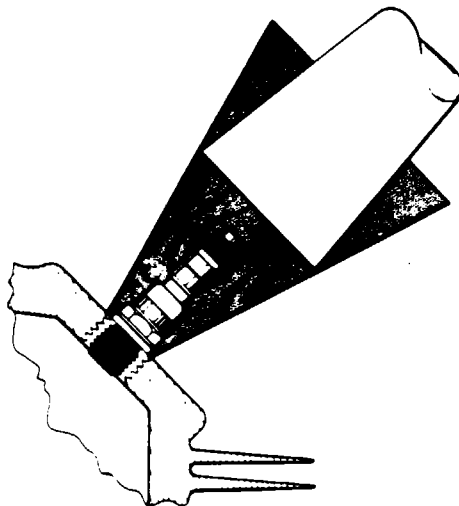

Figure 8-36. Removing Frozen Spark Plug
d. Removal of seized spark plugs in the cylinder may be accomplished by application of liquid carbon dioxide by a Conical metal funnel adapter with a hole at the apex just large enough to accommodate the funnel of a CO₂ bottle. (Refer to Figure 8-36.) When a seized spark plug cannot be removed by normal means, the funnel adapter is placed over and around the spark plug. Place the funnel of the CO₂ bottle inside the funnel adapter and release the carbon dioxide to chill and contract the spark plug. Break the spark plug loose with a wrench. A warm cylinder head at the time the carbon dioxide is applied will aid in the removal of an excessively seized plug.